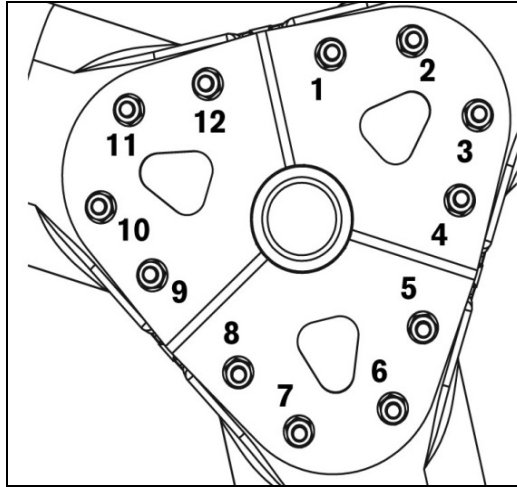

Figure 2
- Blade bolts should be torqued to 50 lb-ft (68 N-m). Follow sequence indicated in Figure 2. NOTE: Bolts shall not be loosened; only checked that they are at least the specified torque.